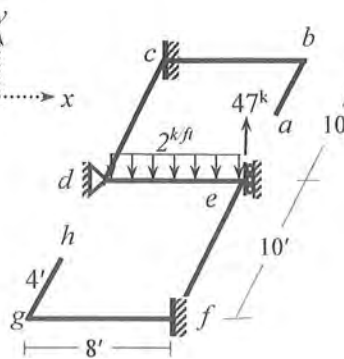

Fig.3
3. Use stiffness method to calculate deflections of joints *d* and *e* of the grid system *abcdefgh* loaded as shown in Fig.3